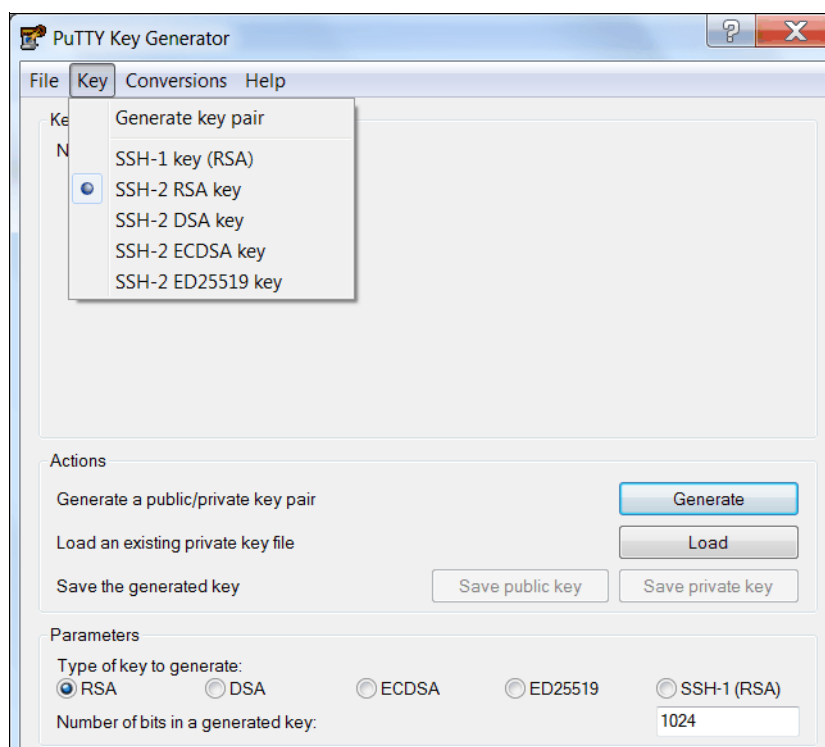

Figure A-1 PuTTY key generator
1. Start the PuTTY key generator to generate the public and private key pair (Figure A-1).